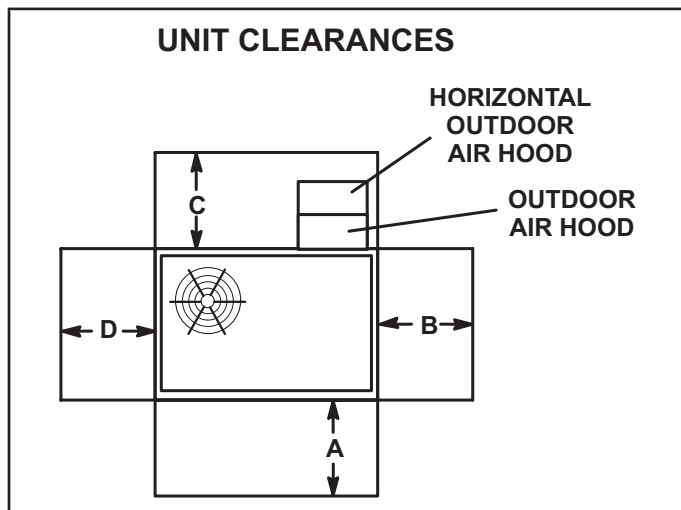

FIGURE 1
The ZH unit is CSA certified as a heat pump with cooling with or without auxiliary electric heat for non-residential use only at the clearances to combustible materials as listed on the unit nameplate and in FIGURE 1.
- 1 - Specified installation clearances must be maintained when installing units. Refer to FIGURE 1.